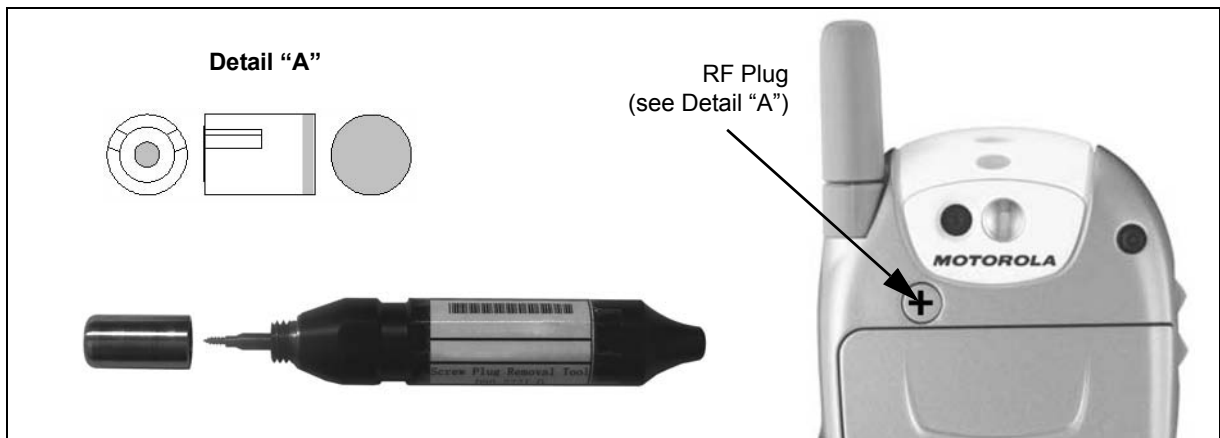

Figure 7-5.
1. Insert threaded point end of tool into center of RF plug. See Figure 7-5.